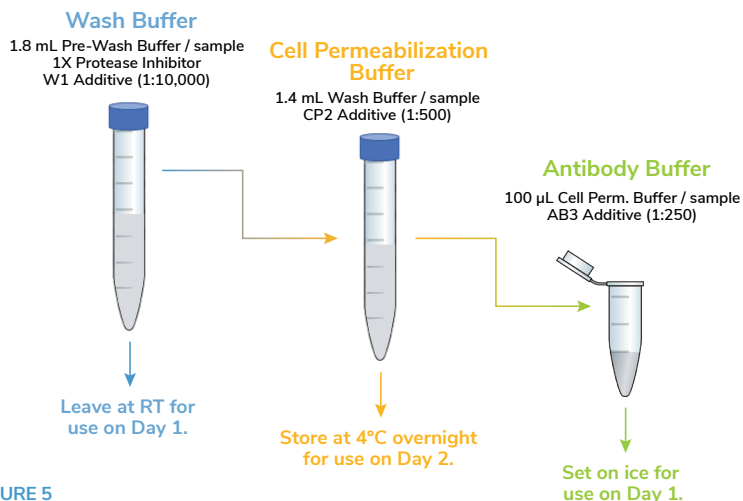

FIGURE 5
- During incubation, make CUT&RUN buffers fresh the day of use (see workflow illustrated in Figure 5 and volume scaling table, right). Add 1.8 mL of **Pre-Wash Buffer** per sample to a single conical tube labeled “**Wash Buffer**”.